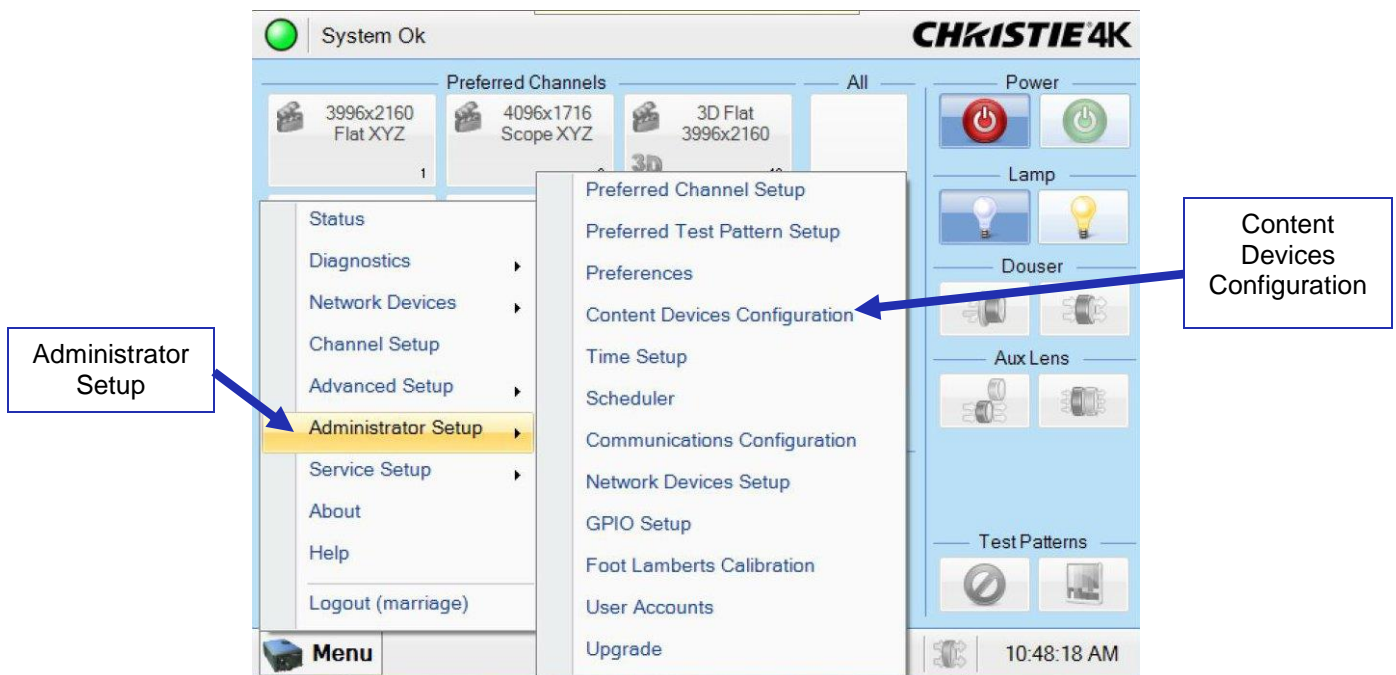
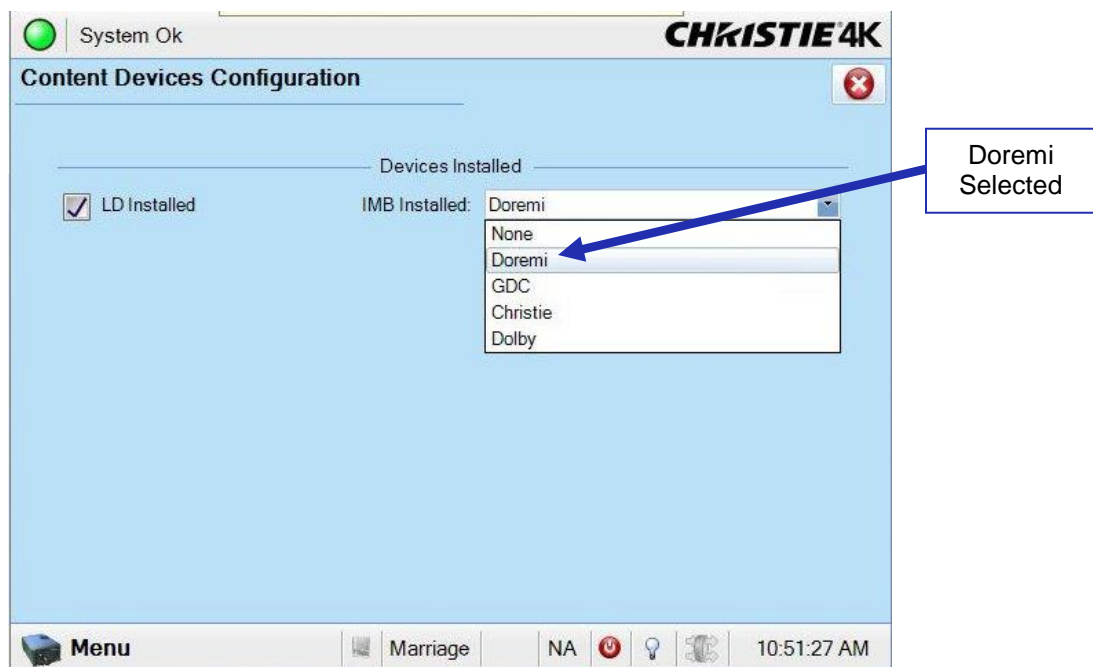

Figure 79: Content Devices Configuration
Figure 80: Drop-Down Menu
- Go to Menu → Administrator Setup → Content Devices Configuration (Figure 79). From the drop-down menu, make sure that Doremi is selected (Figure 80).